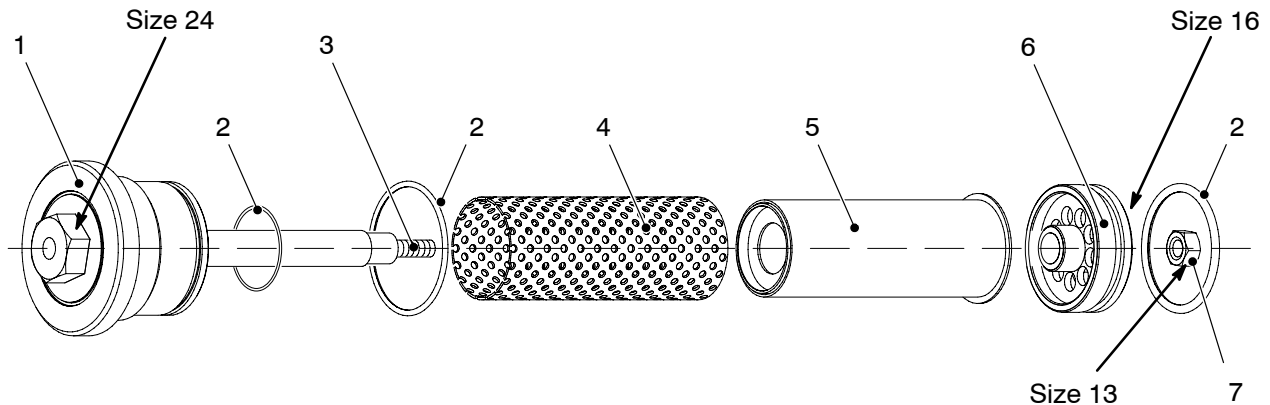

Fig. 5-13
4. Screw the nut (6, Fig. 5-13) onto the thread (3, Fig. 5-13) by hand. Use caution to prevent the filter screen from jamming.